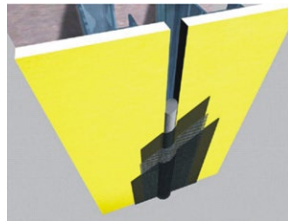

Fig. 14
- Using a brush or 3/4 in (19 mm) nap roller, apply a liberal coat of AquaFlash Liquid material to the backer rod and adjacent substrate surface to the width of the AquaFlash Mesh - Figure 14.